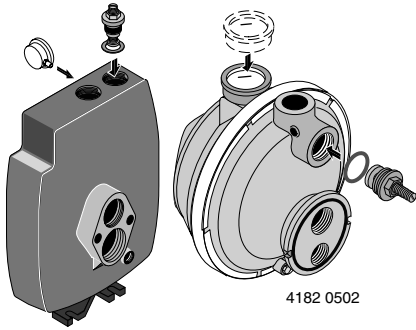

Figure 7: Install Control Valve and Pressure Gauge
- Step 1. Install the control valve and pressure gauge in the pump body (see Figure 7).
- Step 1. Install the control valve and pressure gauge in the pump body. See Figure 7.